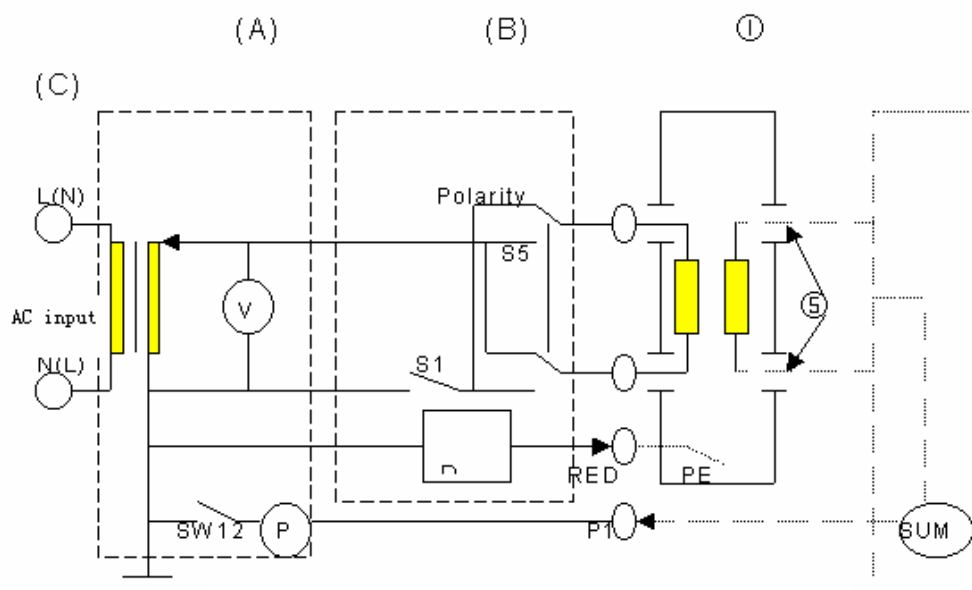

Figure 3-1 Leakage current testing connection between grounding terminal and the earth
2.2.1.1 Connection graph for testing is as shown in figure 3-1: